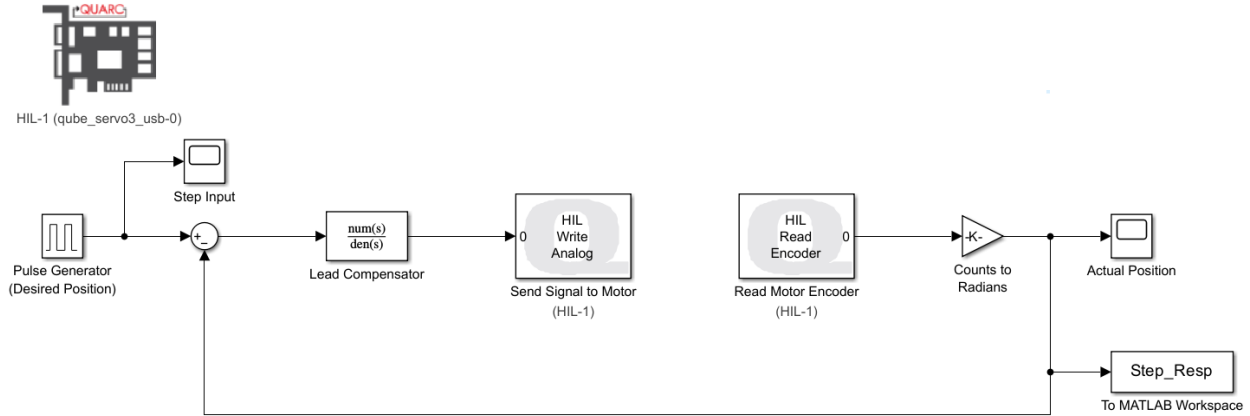

Figure 2: Target Simulink Model for the Step Response Experiment with Lead Compensator.
- vii) Open the *Gain* block at the output of the *Read Encoder* block which is meant to convert *Counts to Radians* (see Figure 2). Set its gain so that it receives *Counts* at its input and outputs position in *Radians* (Hint: You have already done this in Labs 1, 2, 3).
- ix) When you are done building your model by following Figure 1, it should look like the target model shown in Figure 2. **STOP and VERIFY the following (Failure to do so may lead to damaging your motor):**